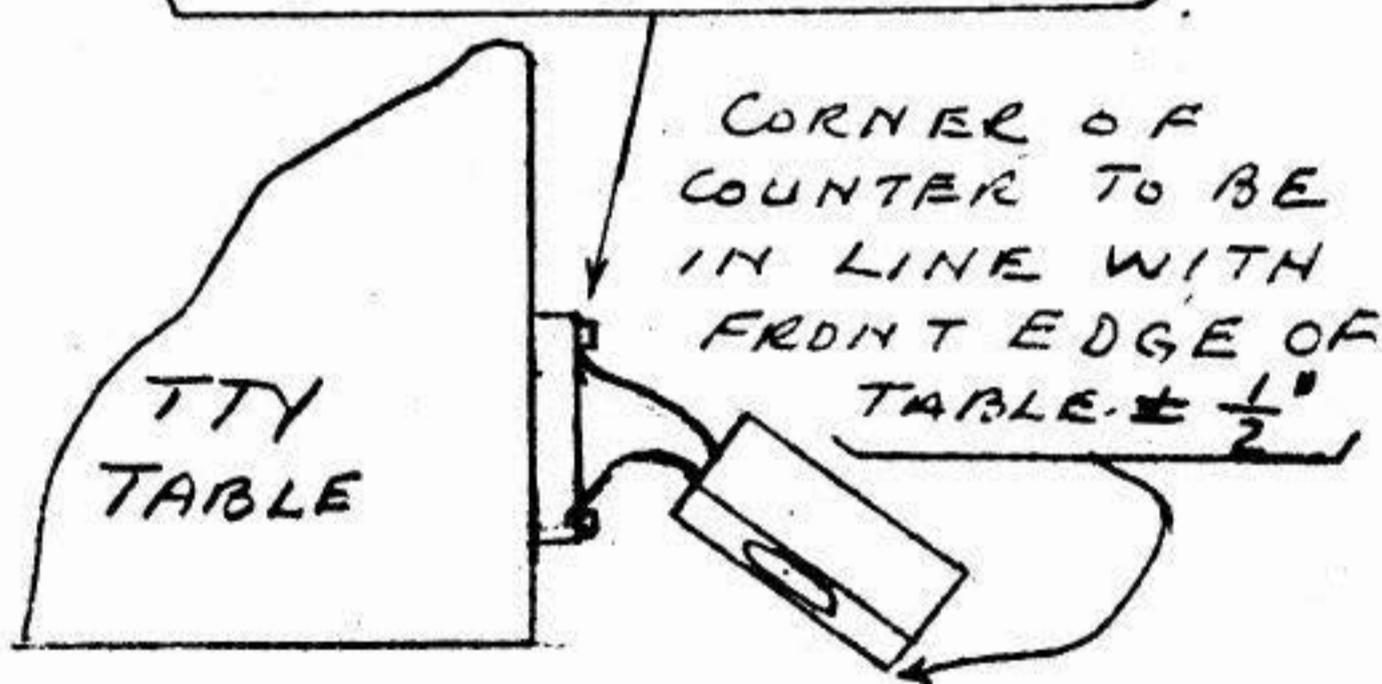

FIGURE 8
3.01 If the TP92996 impulse counter is received wired, check that the wiring agrees with that shown in Figure 8, otherwise, wire it in accordance with this figure.